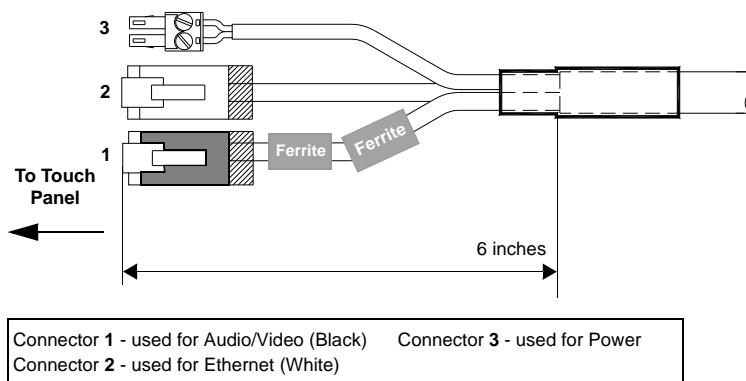

FIG. 14 Ferrite connector location on Audio/Video RJ-45 cable
2. Grasp the Black RJ-45 Audio/Video cable being connected to the panel. This end of the cable is longer than the opposing end which connects to the breakout box (6 inches vs 3 inches). Refer to FIG. 14 for more detailed information.